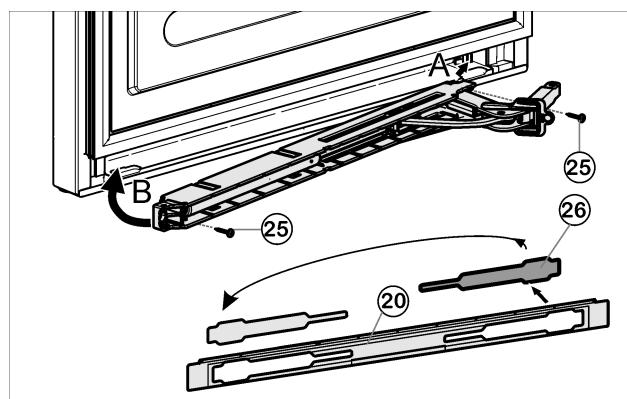

Fig. 14
- Loosen cover Fig. 14 (26) from the panel Fig. 14 (20) and insert on the other side.
- With the hinge of the soft stop unit facing the door hinge side, engage the soft stop unit (A) and swivel inwards (B)
- Tighten soft stop unit (2 x Torx® 15) Fig. 14 (25).